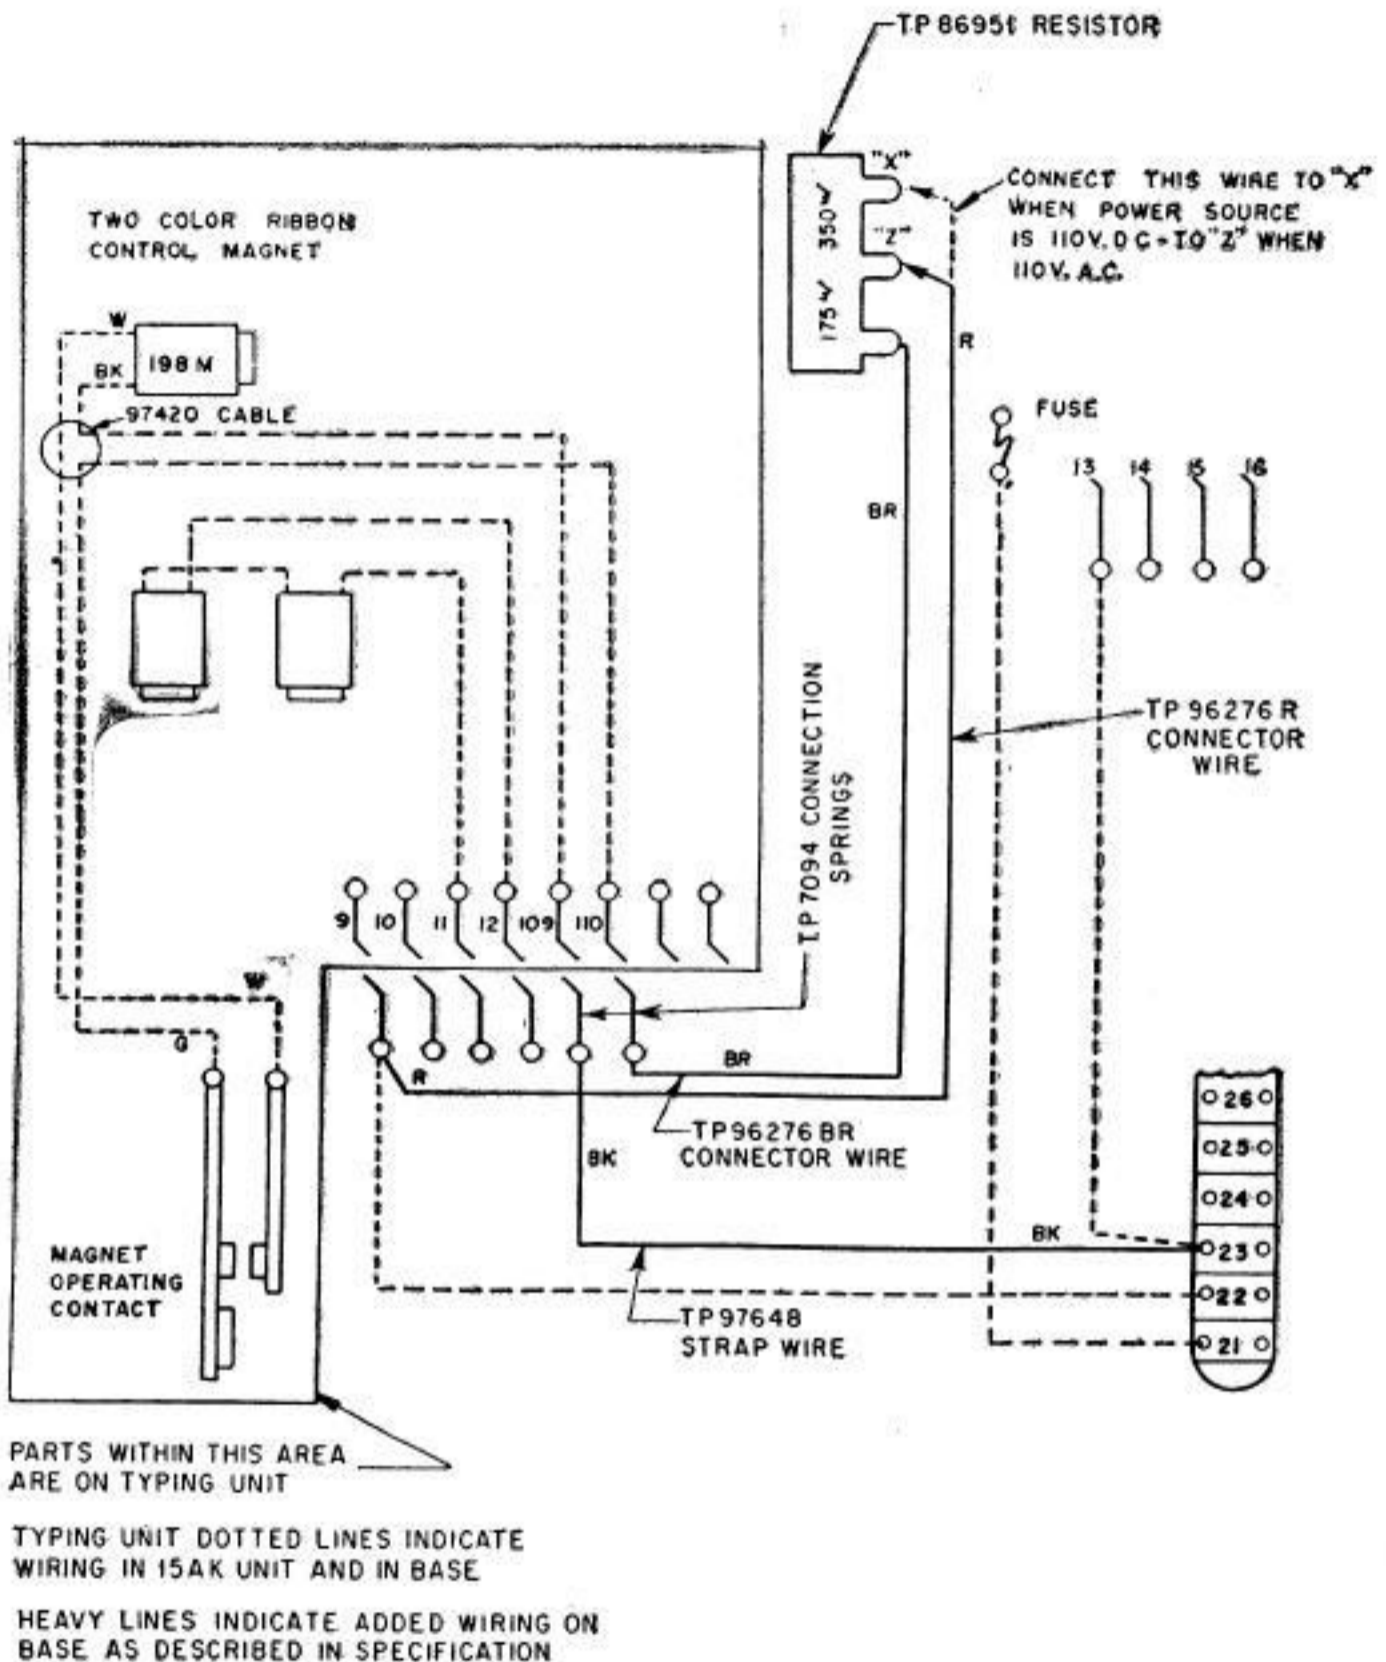

Fig. 1
3.02 Connect one end of the TP96276BR connector wire to the right-hand terminal of the TP86951 resistor and solder at the other end to the TP7094 connection spring installed in Position 110. **Fig. 1**
3.03 Solder one end of the TP96276R connector wire to the terminal 9 of the base unit and solder the other end of this wire as follows: **Fig. 1**